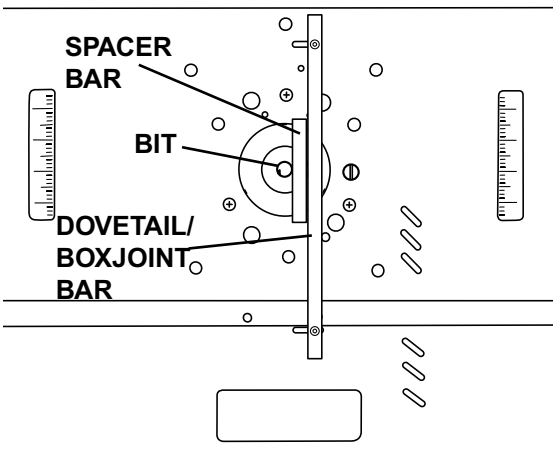

Figure 44
1. Place spacer bar on router table with edge touching outside diameter of (3/8" or 1/4") router bit. See Figure 44.